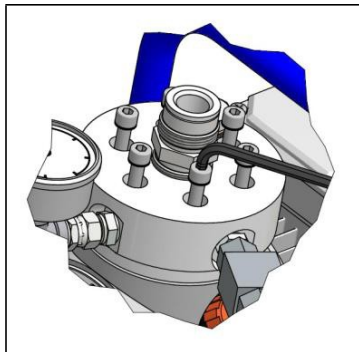

Fig.10.1.4
2. (Fig.10.1.4) With an allen wrench, unscrew the six cylinder head screws with hexagon sockets.